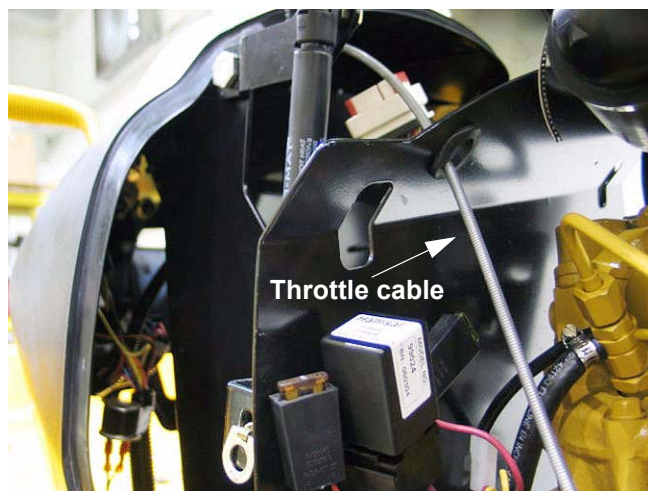

Figure 1.22
1.22. Route the control cables as the dash panel is lowered into place. The throttle cable passes through the grommeted hole at the top right corner of the lower heat shield. See Figure 1.22.